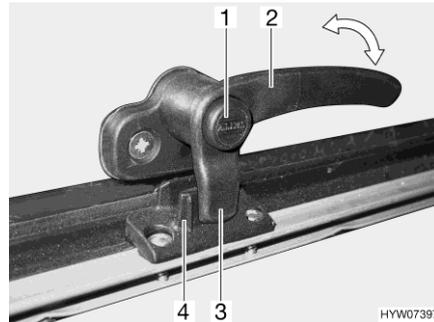
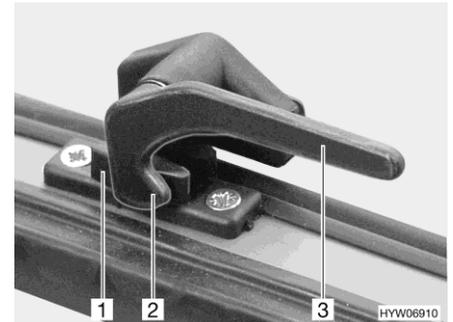

Fig. 78 Catch lever with safety knob in "closed" position
Fig. 79 Catch lever in "closed" position
- Press and hold the security button (Fig. 78,1), if present.
- Turn the catch lever (Fig. 78,2 or Fig. 79,3) a quarter turn towards the centre of the window.
- Turn the catch lever (Fig. 78,2 or Fig. 79,3) a quarter turn towards the window frame.
The locking catch (Fig. 78,3 or Fig. 79,2) on the catch lever is entirely on the inner side of the window catch (Fig. 78,4 or Fig. 79,1).
- "Firmly closed" (Fig. 78 and Fig. 79)